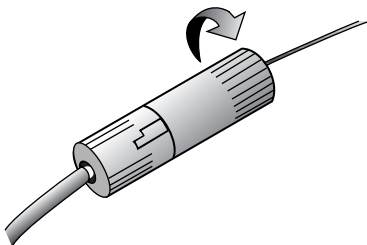

Figure 17. *Unlock the twist-lock connector.*
- a. Hold the test stimulator end of the twist connector stationary in the left hand and turn the lead end of the twist connector clockwise with the right hand until the grooves on each side are lined up (Figure 17).